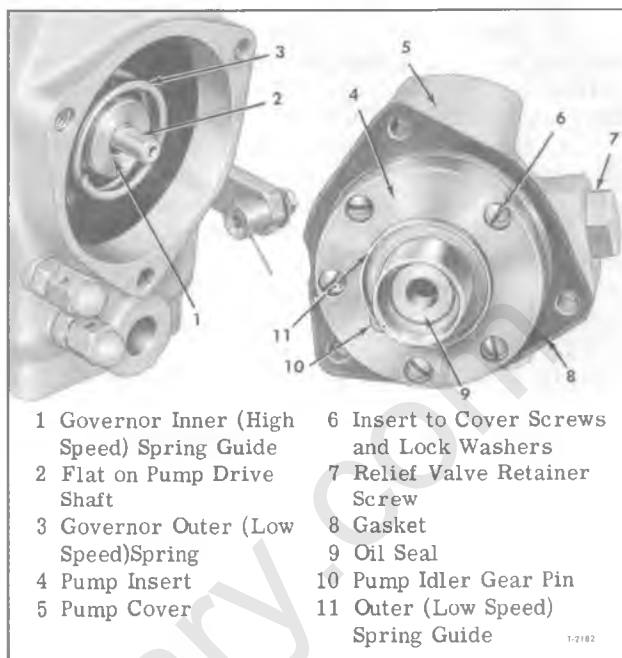

Figure 35—Fuel Supply Pump Removed from Injection Pump Assembly
REMOVAL (Fig. 35)
**CAUTION:** As supply pump is removed the governor inner spring guide (1, fig. 35) and spring spacers are free to fall out of place. Exercise necessary care to prevent loss of these parts. Plug the fuel line openings to prevent dirt from entering.
If the fuel supply pump is in satisfactory operating condition and does not require disassembling for other repairs, the oil seal (9, fig. 35) may be replaced without disassembling the pump. Pry out old seal assembly and press new seal into bore with the seal lip pointed toward the pump gear. Use sealer sparingly at outer circumference of seal to prevent leakage.
Key numbers in text refer to figure 35, unless otherwise indicated.
Key numbers in text refer to figure 35.